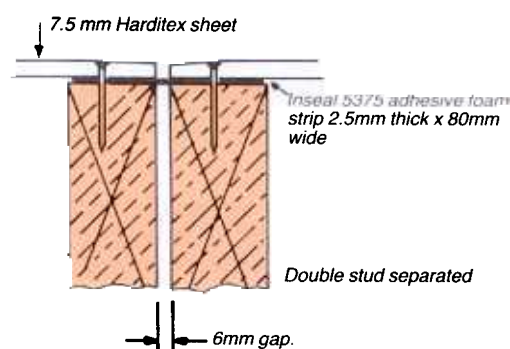

Fig. 5 Vertical Expansion Joint Detail
- Vertical expansion joints must be provided at 5400mm max. centres. Independent vertical framing should be provided at joints with a 6mm gap between (Refer Fig 5).